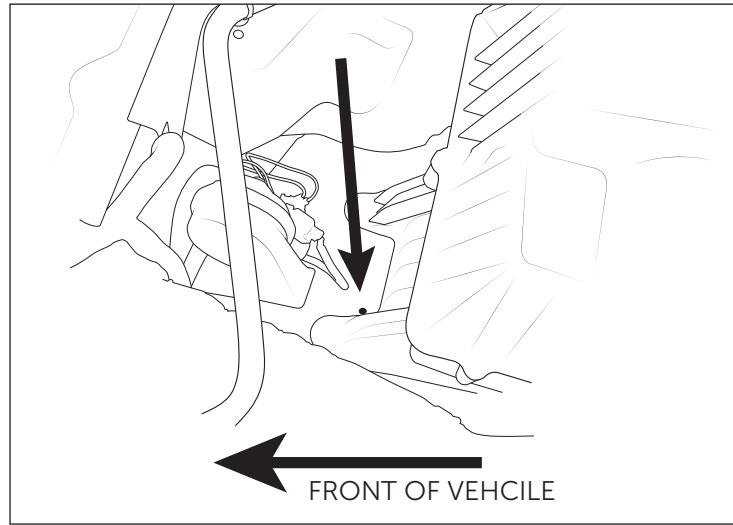

Figure 12
5. Install supplied bolt through the tab at the bottom of the bracket into the existing hole shown (fig. 12).